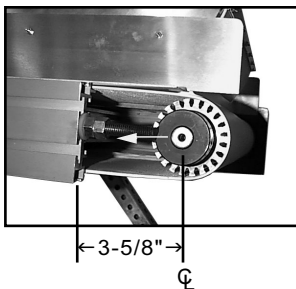

Figure 3
- 6) Back out adjustment nuts on roller support shaft (three locations) (*see Figure 3*).
When retightening the roller support shaft, the distance from the edge of the frame to the center of the shaft should be 3-5/8" (*see Figure 3*).